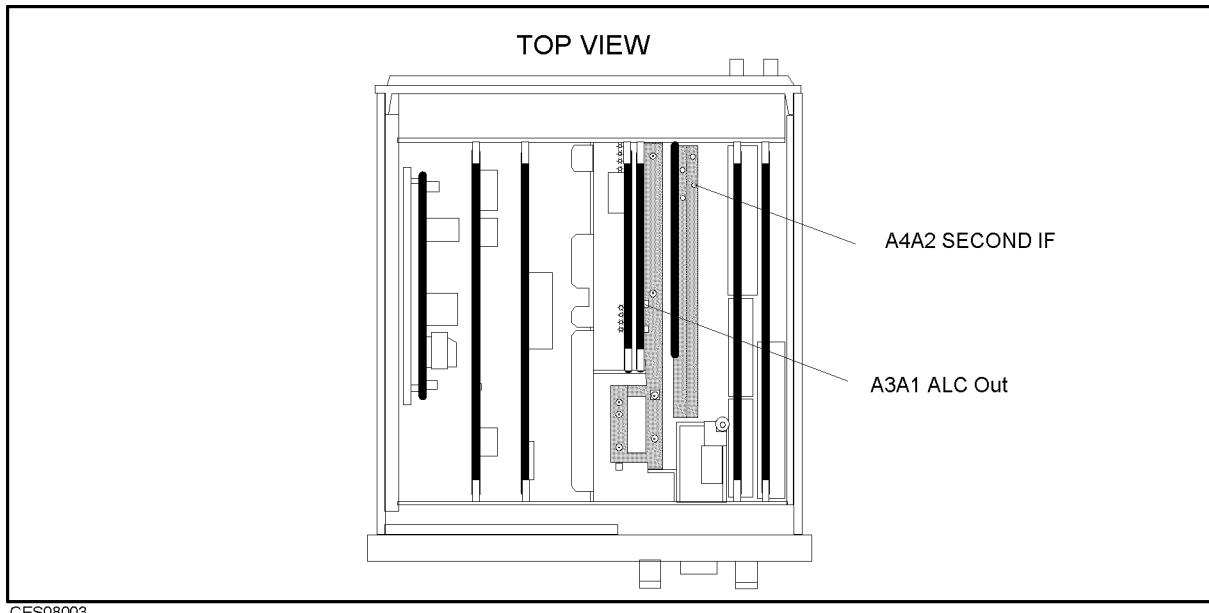

Figure 8-3. A6 GAIN Test Location
3. Turn the analyzer power off. Remove the "D" cable from the A3A1 ALC out connector, remove the "M" cable from the A4A2 second IF connector, then connect the "M" cable to the A3A1 ALC out connector. The connector locations are shown in Figure 8-3.